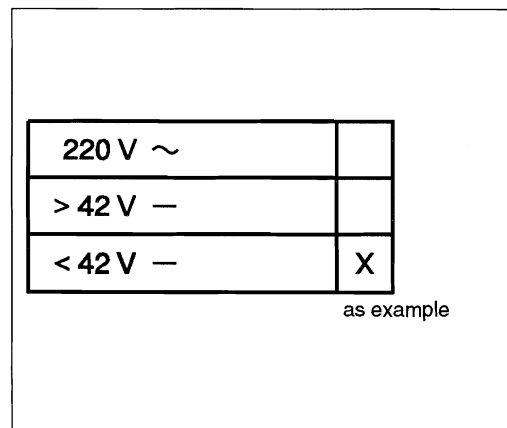

Fig. 10
- the drive used for the counter is correct, i.e. the voltage rating indicated by a cross (Fig. 10).